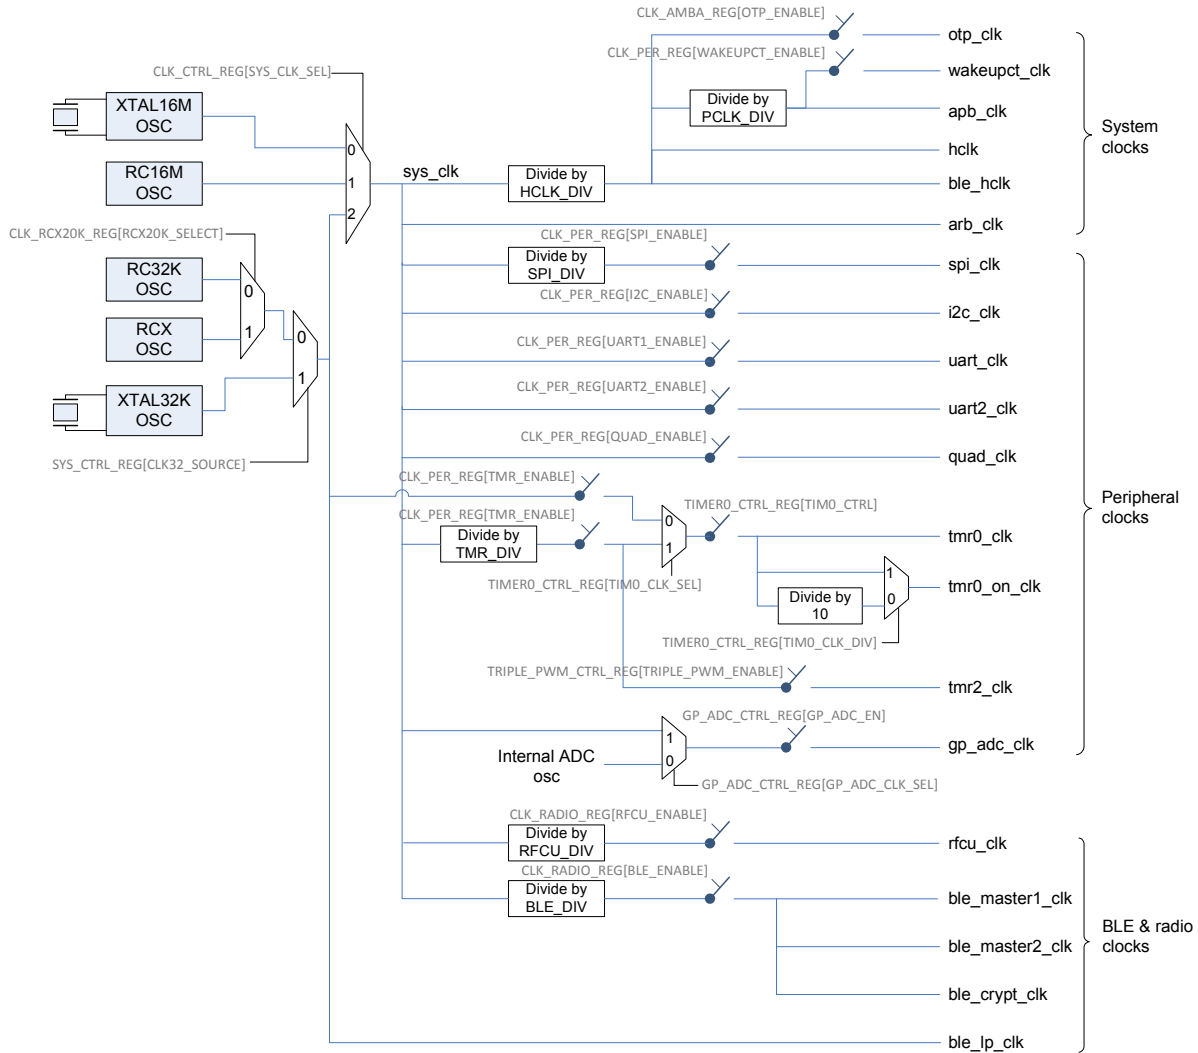

Figure 17: Clock Generation Block Diagram
The clock names depicted in Figure 17 are explained in the following Table:
- When the SPI block is set to Slave mode, then the spi_clk (as depicted in Figure 17) should be at least 4x the clock frequency provided by the external SPI Master. This is required for proper sampling of the data line.